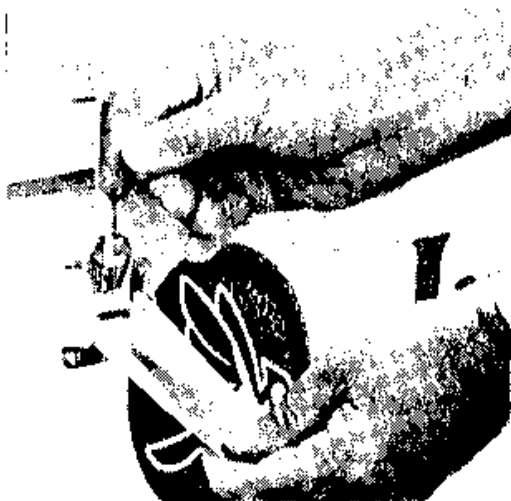

Fig. 1
1. Unfasten each corner latch. **CAUTION: NEVER TRY TO CRANK UP THE ROOF UNTIL ALL FOUR CORNER LATCHES ARE UNLOCKED AND FREE.** Fig. 1. **NEVER LIFT ROOF WITH CARGO IN PLACE.**